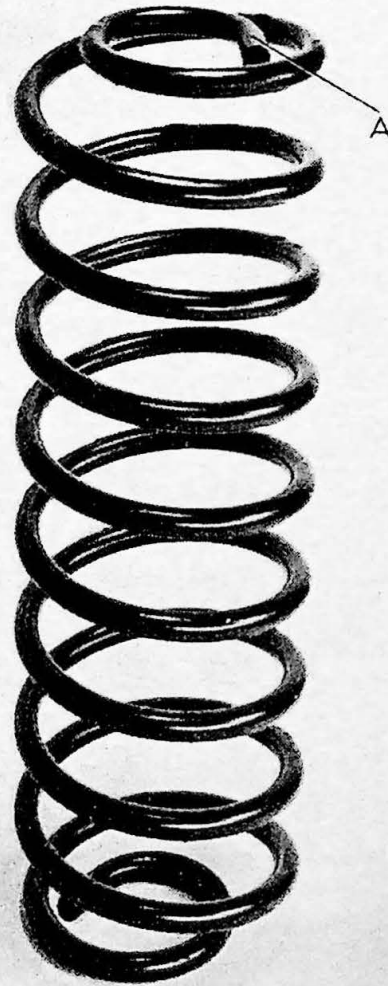

Fig. 4. Rear Spring. VOLVO 20237
1. Place the spring and the rubber spacer (3) into position and attach the spring to the body. The straight part of the spring (A Fig. 4) must face diagonally inwards.
2. Raise the rear-axle housing with the jack and attach the spring to the support arm. Attach the shock absorber band (11) to the rear axle support arm.
3. Connect the shock absorber (5) to the rear axle housing.